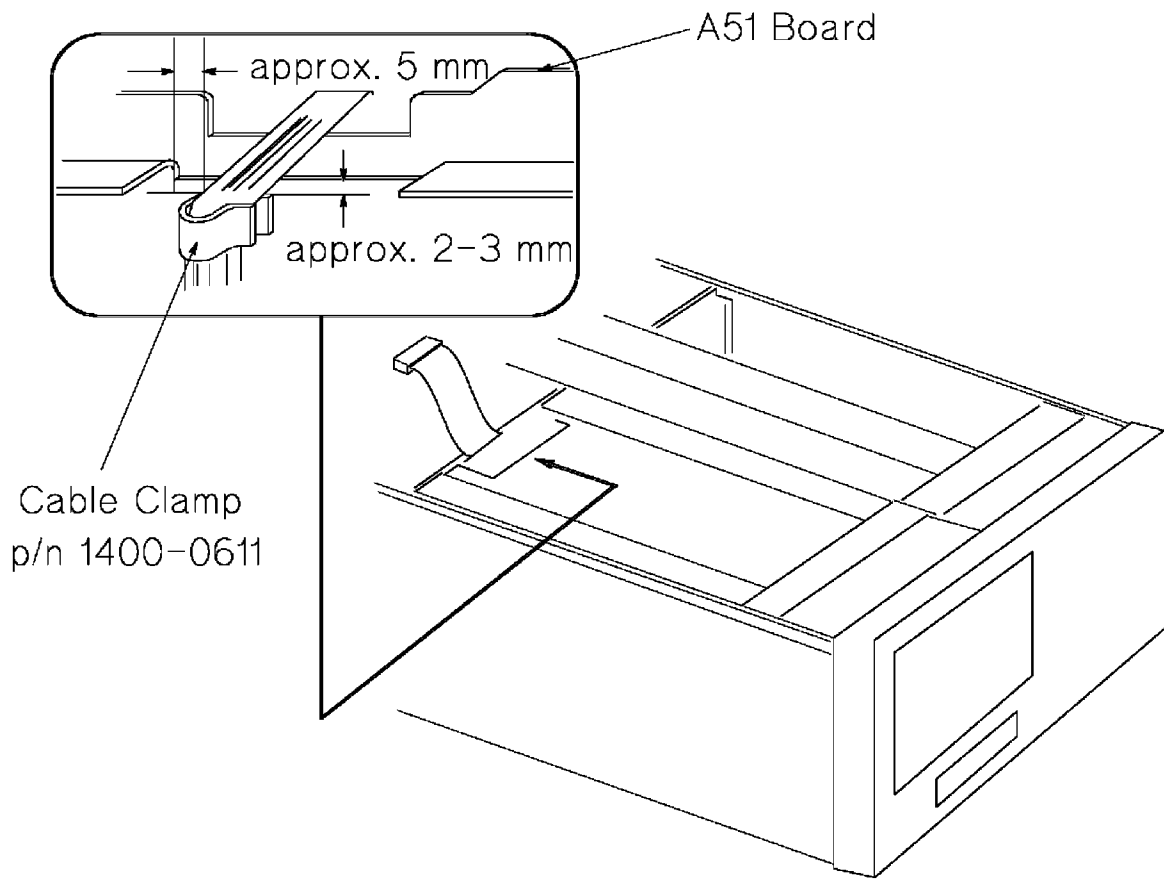

Figure 1. Cable Clamp Location
5. Regardless of the degree of flatcable degradation, fasten the flatcable in place with the Cable Clamp (p/n 1400-0611) so that the edges of the shield plate (p/n 87510-64915) and the A51 board do not pinch the flatcable. (Refer to Figure 1).